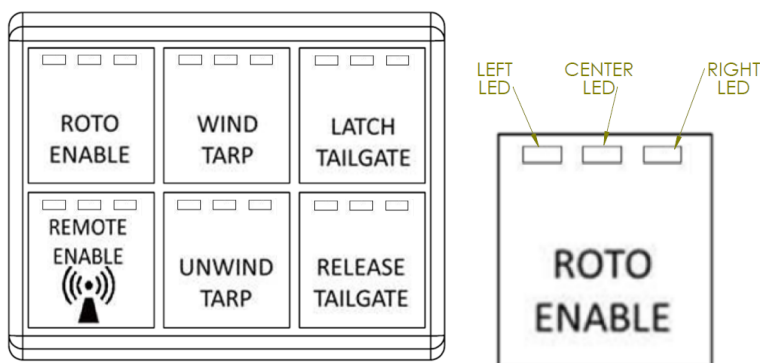

FIGURE 1-2 - KEYPAD TOP VIEW & LED LOCATIONS
3. Press the “ROTO ENABLE” button found on the keypad. All 3 LEDs will illuminate on this button when the Roto Dump system is enabled, see Figure 1.2. If the left LED blinks when this button is pressed, the PTO has not been engaged.